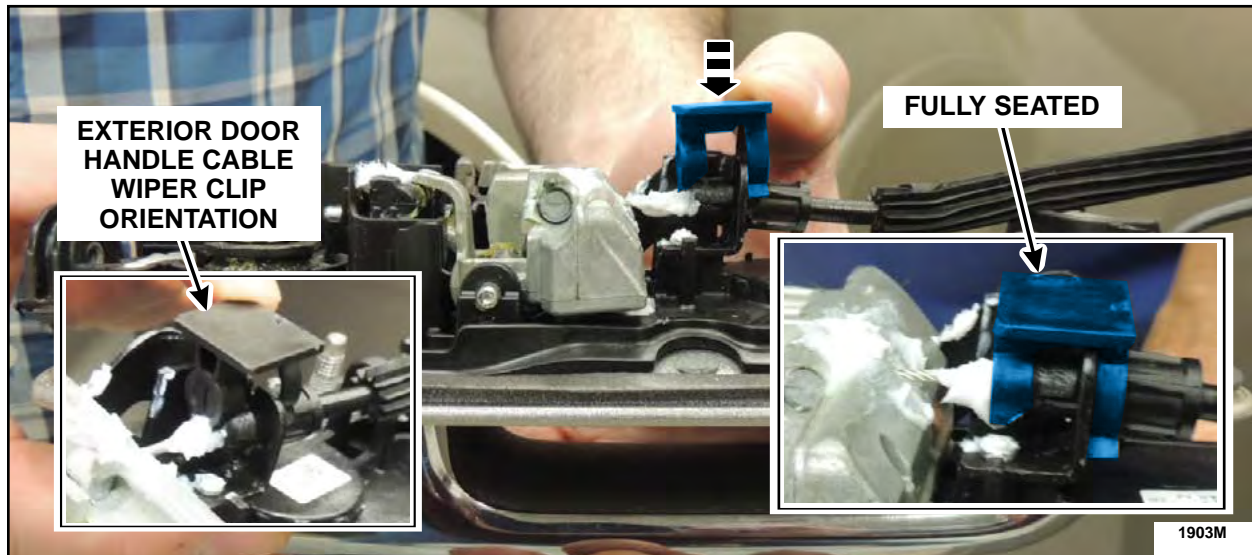

FIGURE 51
23. Install the handle cable wiper clip on the exterior door handle cable end. See Figure 51.